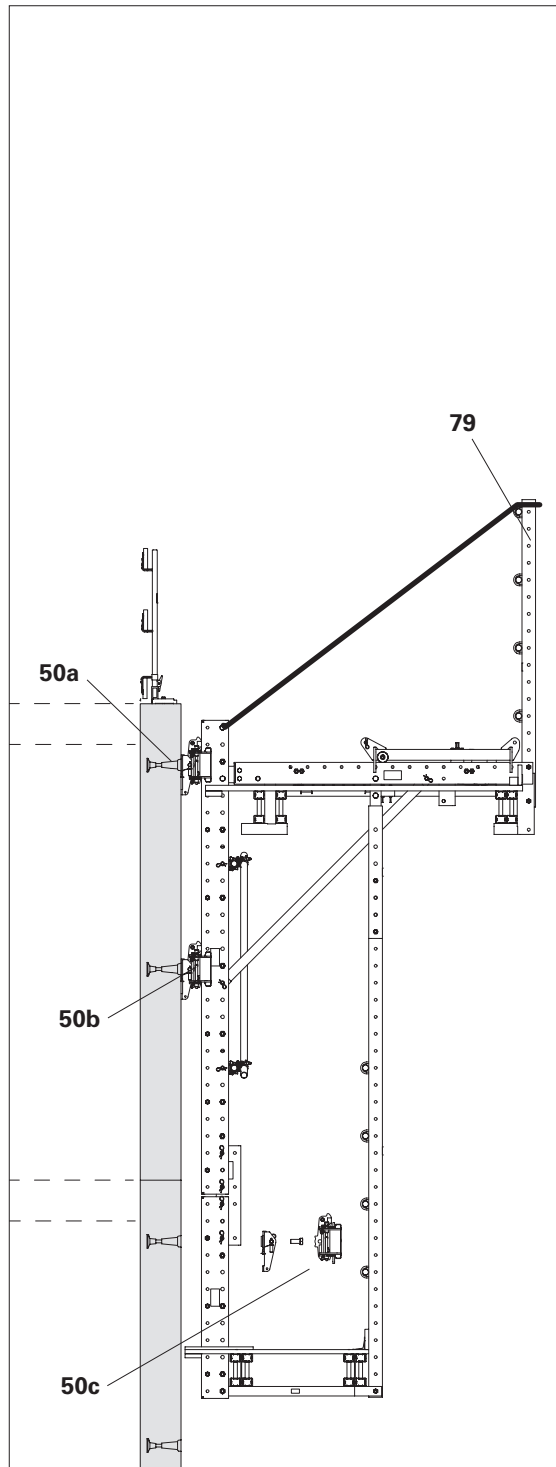

Fig. E1.02
2. Remove or brace the lateral protection (79) of the work platform. See Section "C2 Pre-assembling the console bracket unit" on page 74. (Fig. E1.02)